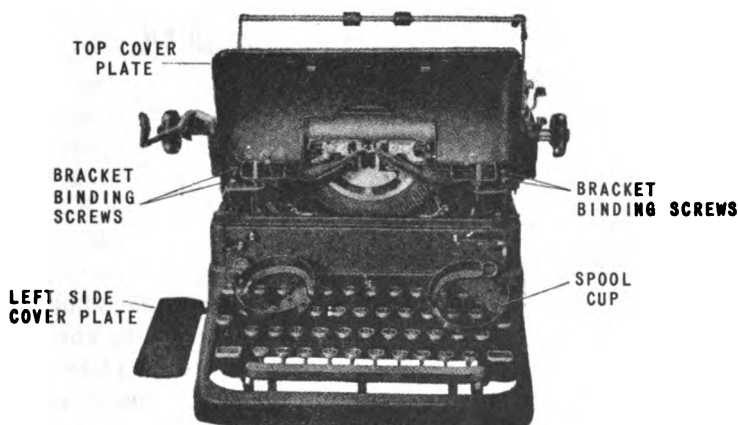

Figure 201. — Top cover plate.
2. Adjust the lower shift toggle lever eccentric *e* with its large side towards the rear of the machine, until the lower case letters are on feet top and bottom. (See figure 201.) Test by striking the character lightly, to see if the type prints with the same density at both top and bottom.
removal of the cover plates. The top cover plate is taken off with the segment cover plates attached. This is done by loosening the four bracket binding screws (shown in figure 201). For